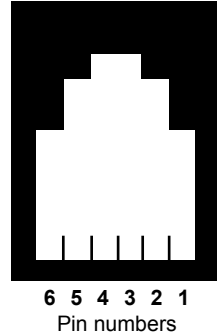

Fig. 24 RJ11 socket
- The electrical wiring for the EIA 232C communications has been carried out in accordance with the EIA 232C standard. Please note the TFA EIA 232C connection requires a connector RJ11 linked to a 9 way D-type adaptor. Figure 24 illustrates the TFA flowmeter's RJ11 socket from the front.